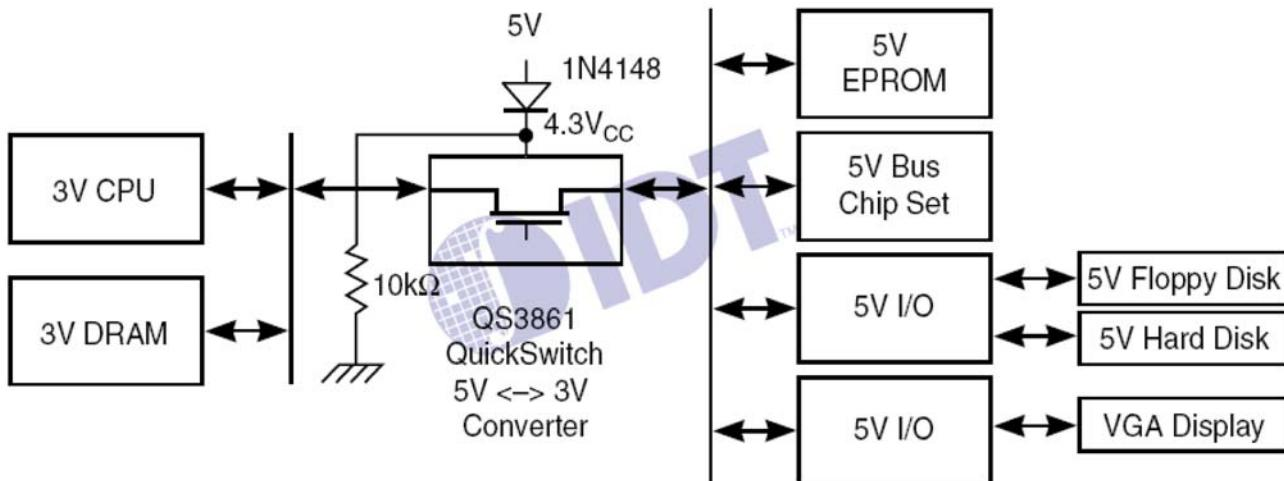

Figure 5. System with QS3861 as 5V TTL to 3V TTL Converter
*IDT also offers some devices such as QS3384 which have an internal current path from V_{CC} to ground. These devices have a specified maximum power supply current of 1.5mA and do not require the external bias resistor shown in Figure 5.